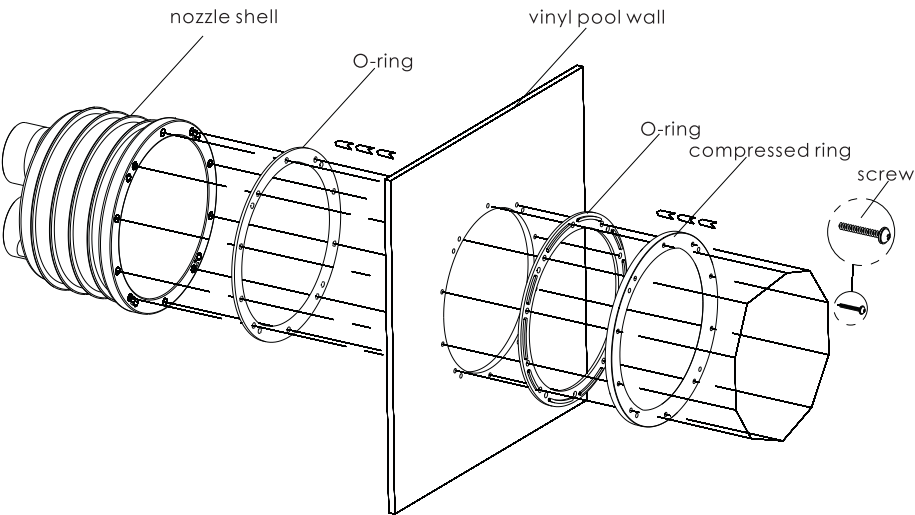

Figure 4
- Install the outer shell, plastic ring, in the correct order on the pool shell wall. ( Figure 4)